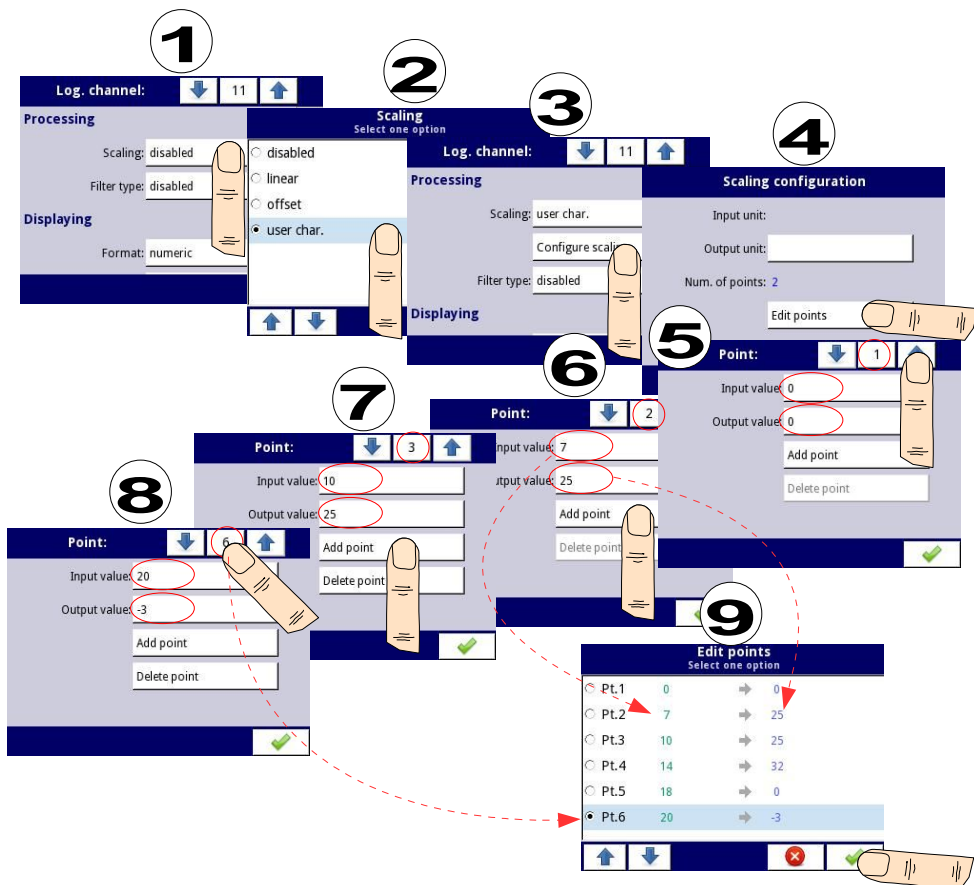

Fig. 7.35. Configuring the user characteristic
1. Press the button next to the **Scaling** label and select **user characteristic** option (point (1) and (2) in **Fig. 7.35**).
2. Press the **Configure scaling** button and enter the **Scaling configuration** menu (point (3) in **Fig. 7.35**).
4. Press the **Edit points** button (point (4) in **Fig. 7.35**) and go to **Edit points** menu.
For **Point 1** set input and output value (point (5) in **Fig. 7.35**).
5. Switch to **Point 2** by using the arrow keys and there also set the value of input and output (point (6) in **Fig. 7.35**).
8. At the end we check all the points defined by clicking the middle button between the arrows in the upper right corner of the screen (point **(8)** and **(9)** in **Fig. 7.35**).